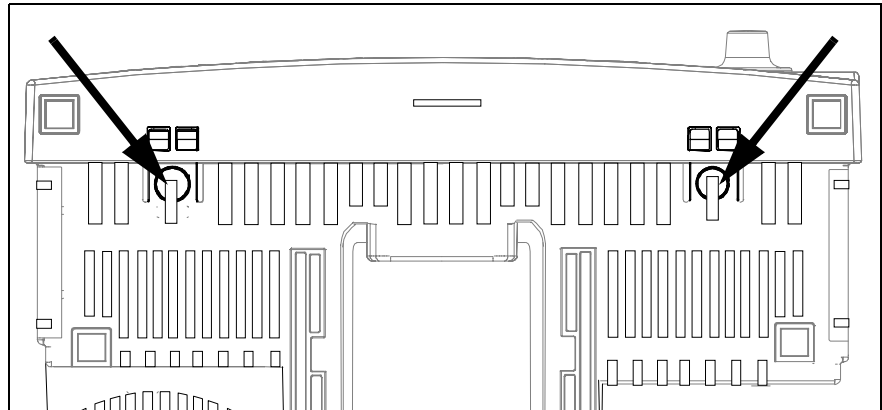

Figure 3-6 Bottom Release Tabs for Front Bezel Subassembly
- 3) Press in firmly on thumb depressions on bottom of monitor to release latches (see Figure 3-6), and slightly separate bottom of front bezel subassembly from rear housing.